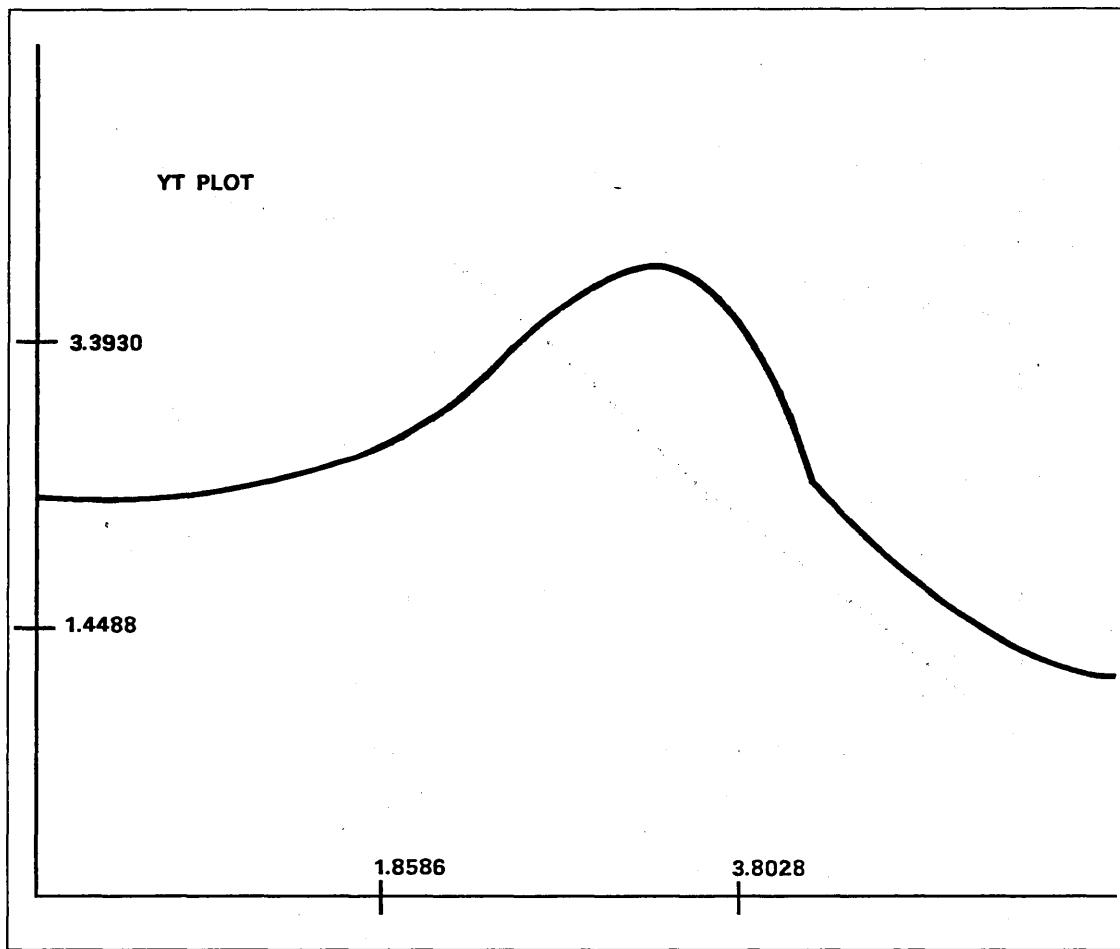

Figure 2-9. Y Transform Range of the Spline
- 5 To display a graph of the yt coordinates. The current display is replaced by a plot of the spline's parametric range along the horizontal axis of the graph versus the spline's yt range along the vertical axis of the graph. (Refer to figure 2-9.)